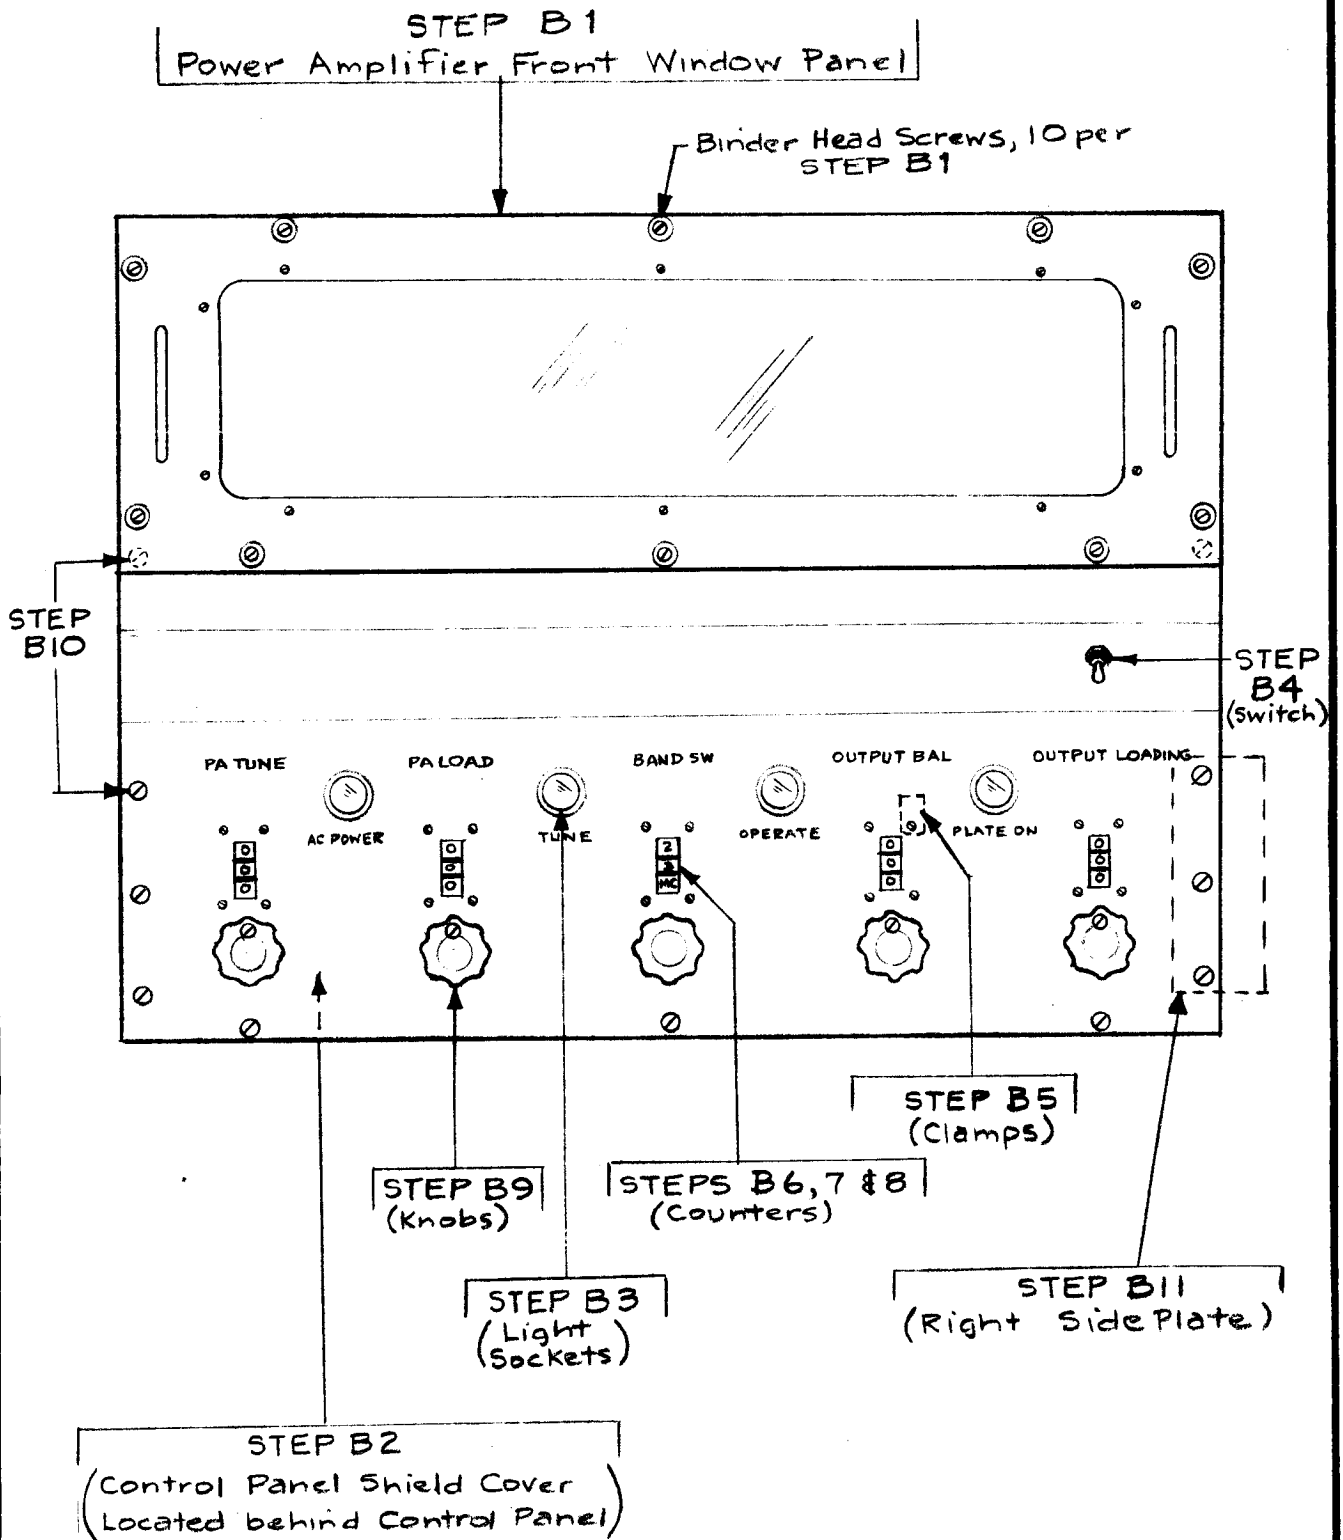

FIGURE 4
B. FEEDTHRU CAPACITOR MODIFICATION PA DECK (Figures 4, 5, 6, & 7)
1. Unscrew the ten binder screws from the Power Amplifier Front Window Panel and remove Panel. (Figure 4).
2. Remove control panel shield cover. (Figure 4).
3. Remove all wires connected to the front indicator lamp sockets on rear of Control Panel. Make note of connections for future re-connection. (Figure 4).
4. Unsolder and remove wires connected to the toggle switch on rear of Control Panel. (Some transmitters may not have this switch, in which case, this step must be disregarded). (Figure 4).
5. Remove all cable clamps on rear of Control Panel. (Figure 4).
6. Set the PA TUNE, PA LOAD and OUTPUT BAL. counters to read 000. (Figure 4).
7. Set the BANDSWITCH counter to the lowest reading (2 to 3 Mc or 4 to 6 Mc, depending upon type of transmitter). (Figure 4).
8. Set OUTPUT LOADING counter to 000 or TUNE position. (depending upon type of transmitter). (Figure 4).
9. Loosen set screws and remove the five Front Panel Control Knobs. Remove any burrs left by Knobs screws. (Figure 4).
10. Unscrew the two flat head screws and nine binder head screws from the Control Panel and remove the panel. (Figure 4).
11. On the right sideplate, unsolder and remove wires from the top and bottom of the seven feedthru capacitors, symbols C1000, 1001, 1002, 1004, 1006, 1007, and C1008 and the two ground lugs mounted on C1001. (Figure 4 & 5). Using Figure 6, mark the wire colors of leads removed.